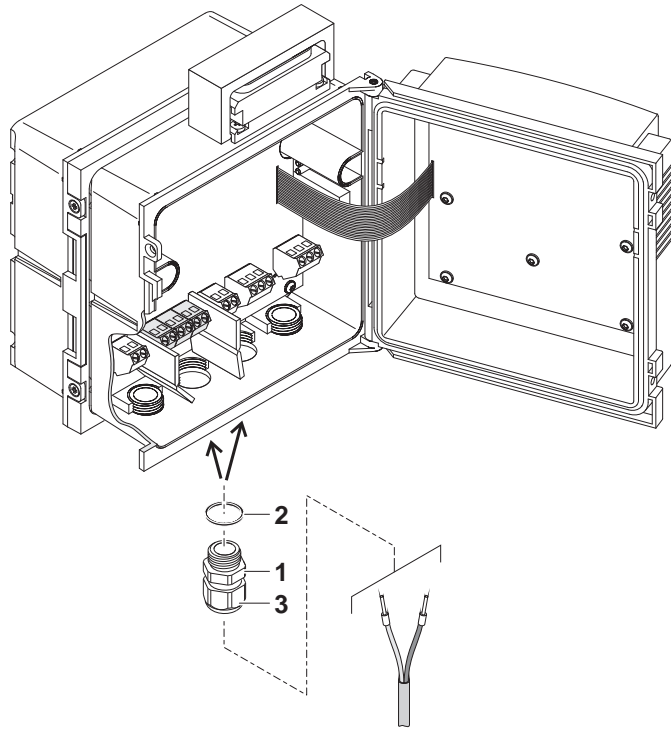

Fig. 3-31 Feeding in the lines (example: front terminal strip)
| 12 | Screw a cable gland (pos. 1 in Fig. 3-31) with the sealing ring (pos. 2) into the enclosure below the respective connections. |